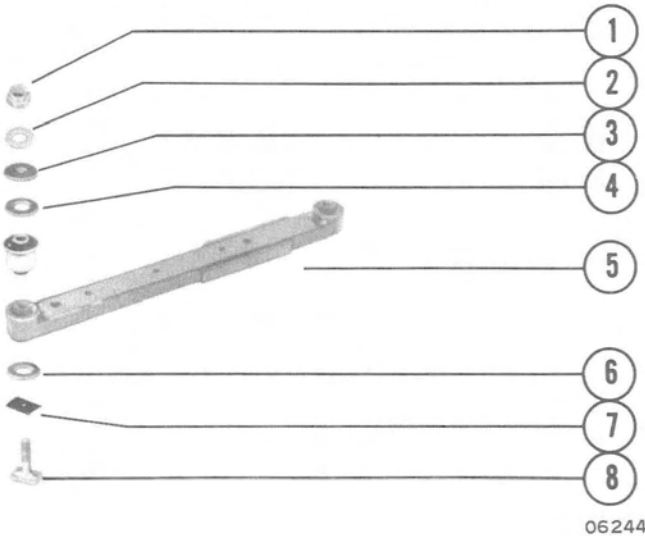

Figure 4. Engine Support Bracket - Front
mounting hardware in place (items 3-6 in Figure 3 and items 6-7 in Figure 4), lift and align rear engine support bracket with rear mount extensions and engage front support bracket on engine mount screws.